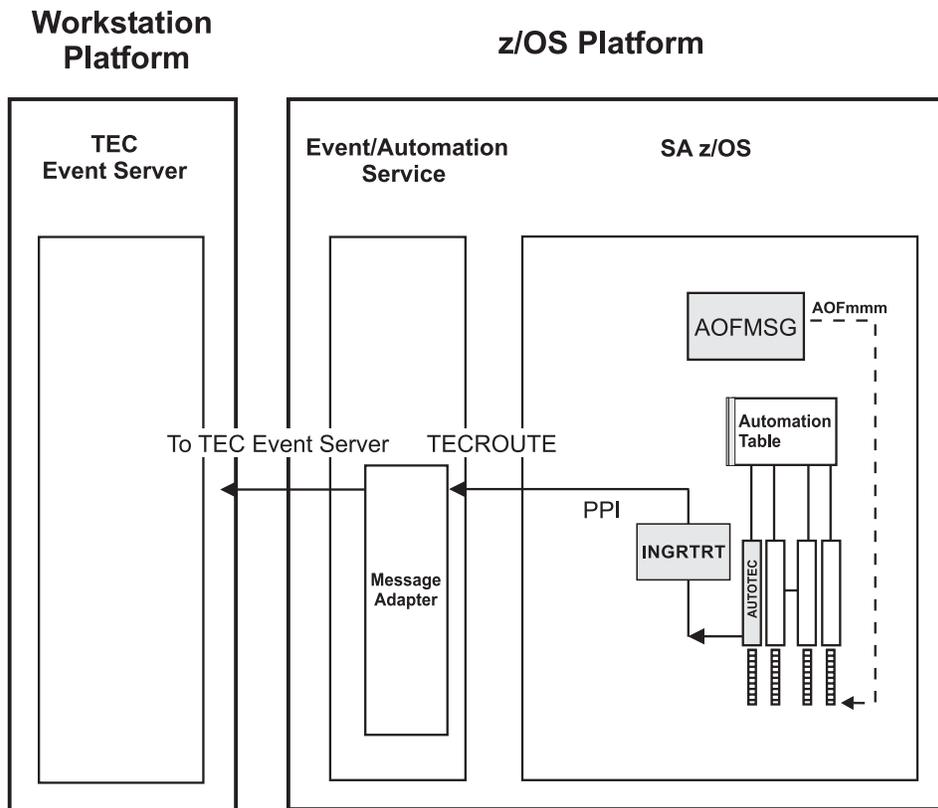

Figure 6. Local Configuration: NetView Event/Automation Service Local to the SA z/OS Source of Messages
- **Local Configuration:** The message adapter or alert adapter is running on the same z/OS system on which SA z/OS is also running. The adapters are local to the SA z/OS which is issuing and forwarding messages and alerts to the Tivoli Enterprise Console. Such a configuration for message forwarding is illustrated in Figure 6 on page 46.